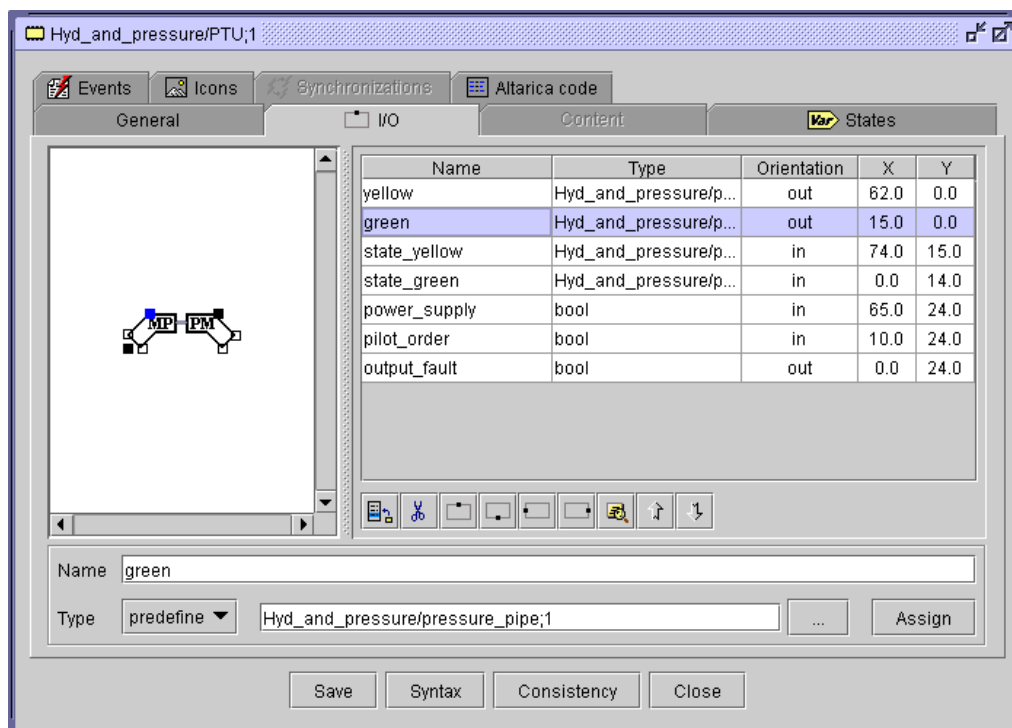

Figure 51 : I/O tab – Predefined variable
- * **predefine:** **predefined** type in library (Figure 51)
- ♦ **predefine**: predefined type in library (Figure 51). For the version 3.0 only the enumerate types must be used for the state variables.